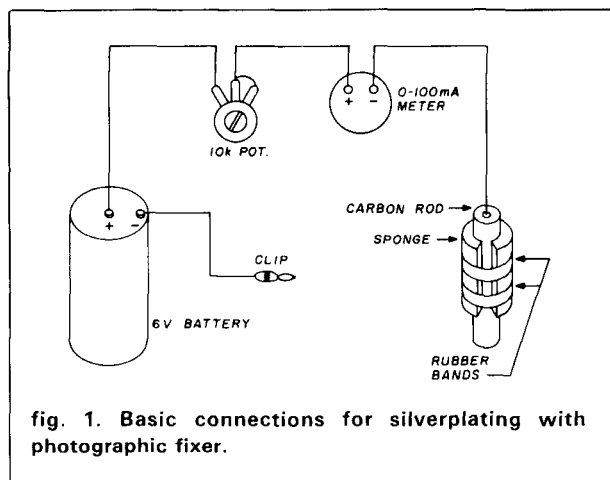

fig. 1. Basic connections for silverplating with photographic fixer.
1. Connect the battery, potentiometer, carbon rod, and meter as shown in **fig. 1**.